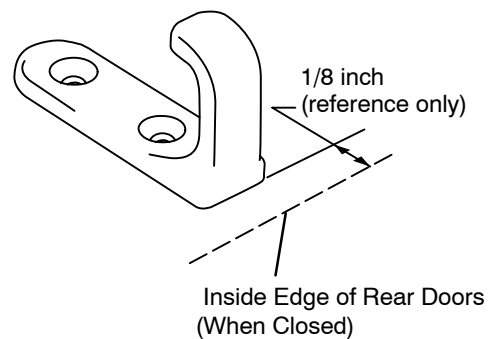

Figure 5a – Safety Hook Placement
3. Center the safety hook on the cot safety bar, with the hook facing the front of the vehicle (Figure 5a). For best results, the face of the safety hook which engages the safety bar should be at least 3–3/4” from the leading edge of the door sill (Figure 5b)